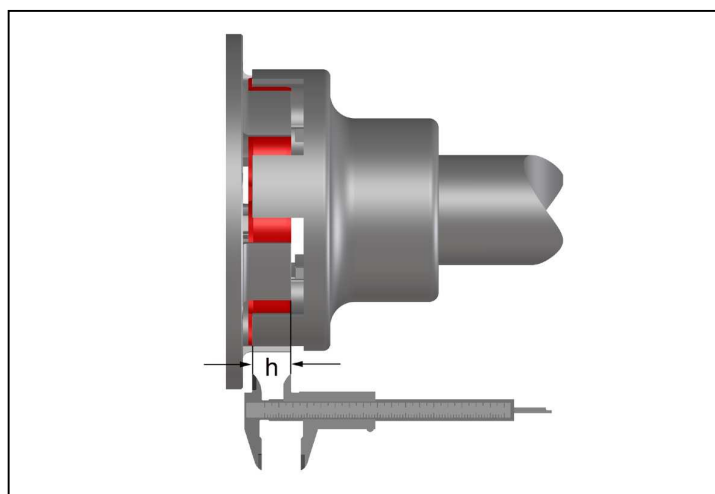

Fig. 8
- Measure the axial claw overlap 'h' as shown in Fig. 8.